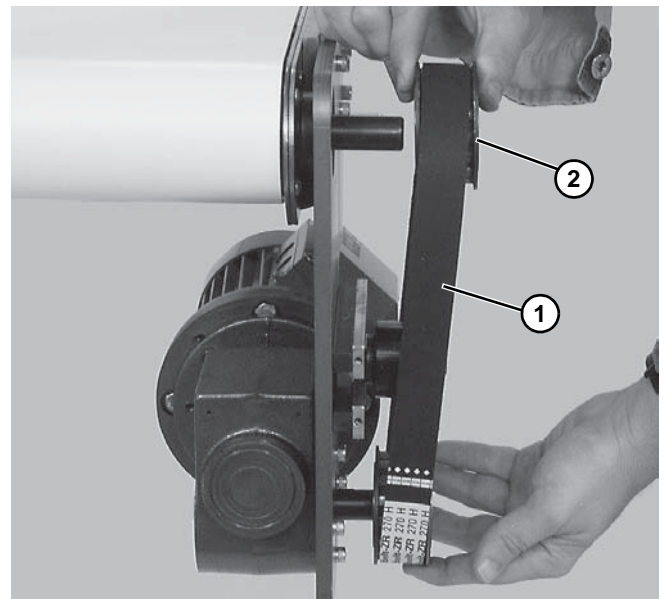

Figure 16
3. Remove timing belt (**Figure 16, item 1**).
If timing belt does not slide over pulley flange, loosen driven pulley taper-lock screws (Figure 16, item 2) and remove pulley with belt (Figure 16, item 1). For re-installation, see steps 6 thru 8 on beginning on page 9.